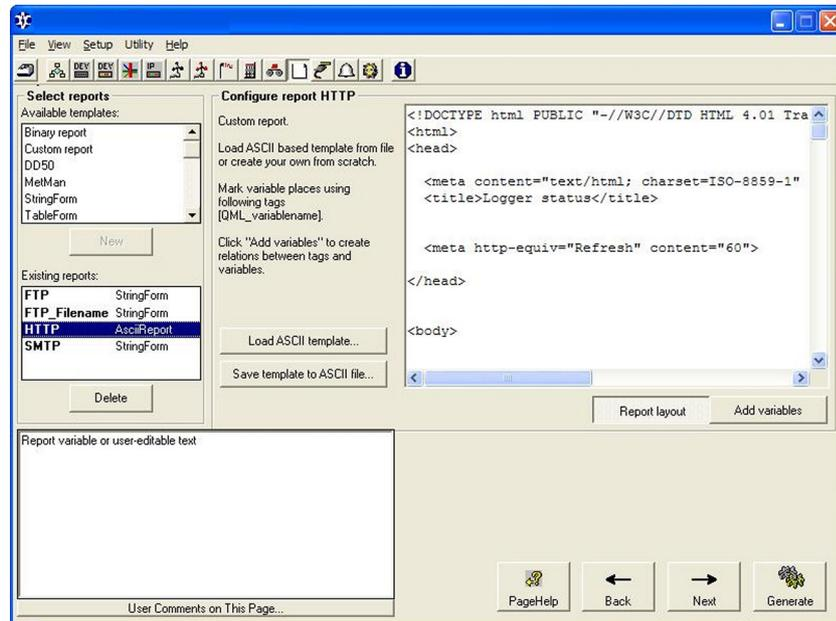

Figure 114 Loading Custom ASCII Template into Lizard Setup Software
- b. Importing an HTML or XML report template from a file by selecting **Load ASCII template** and then browsing for the template file. If you select this option, a screen shown in Figure 114 on page 256 is displayed:.